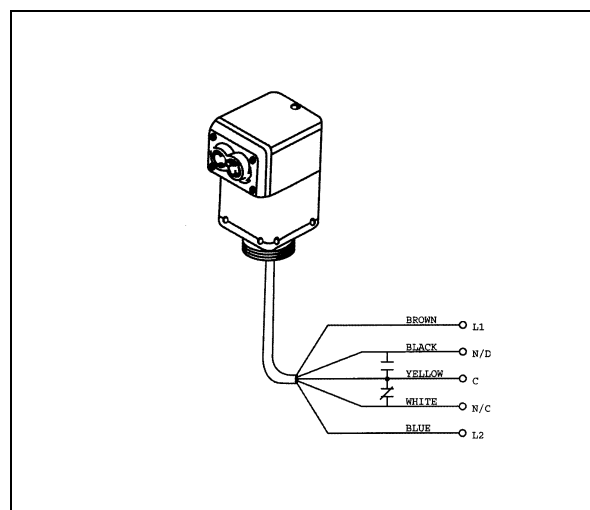

Figure 20. Optic Probe.
4.10.4 Wiring, Optic Probe (Figure 20)
4. Wire sensor per Figure 20.